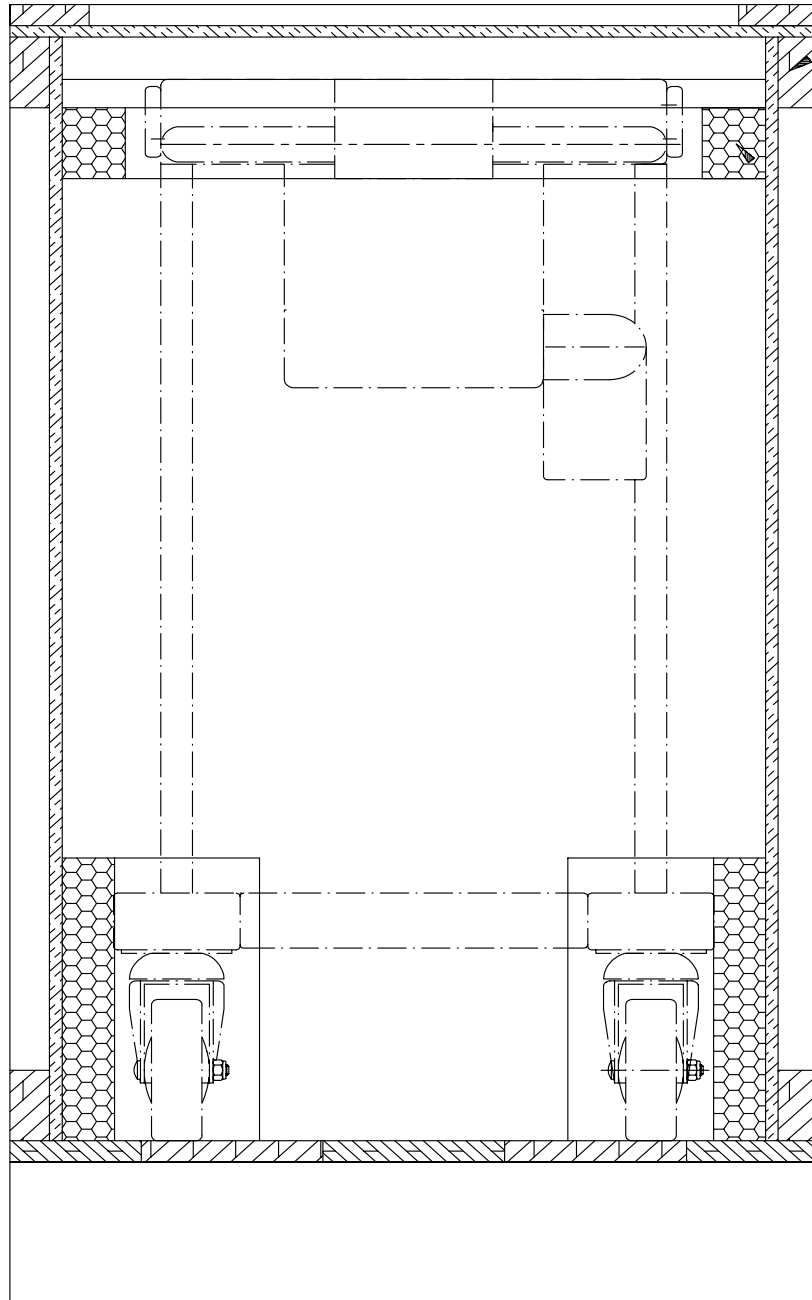

Figure 3-8 Global Trolley Unpacking
- 1.) Unpack the global trolley packed in a wooden box by opening the top cover, refer Figure 3-8 (trolley which is inside the box is seen in the diagram).
- 2.) Unpack the Modular Trolley packed in a box by opening the top cover, refer Figure 3-8